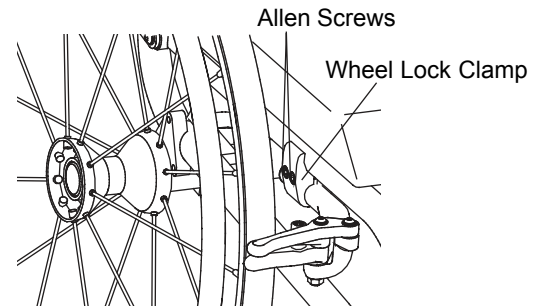

Figure 78
1. Loosen the two Allen Screws that secure the wheel lock clamp to the frame. See Figure 78.